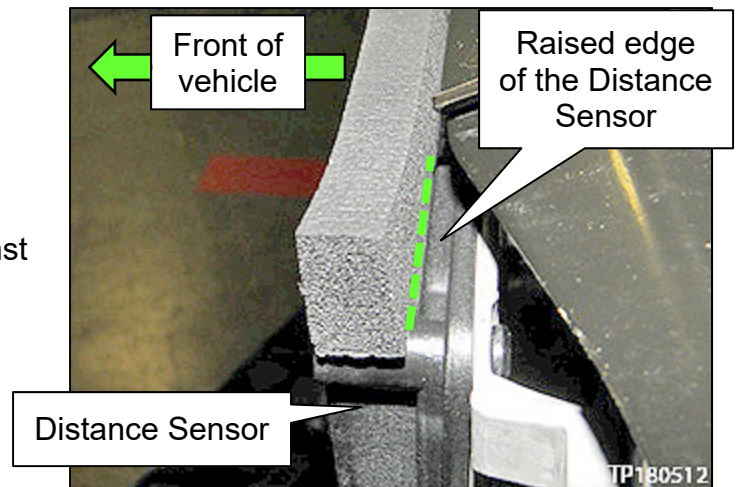

Figure 6
- Figure 6 illustrates alignment of the rear facing edge of foam strip against raised edge of Distance Sensor.